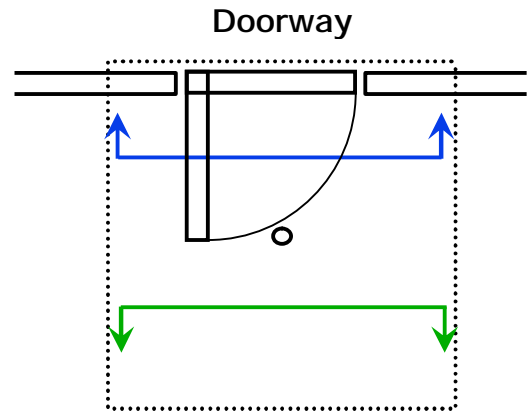

Figure 10.1
- Avoid mounting the counter over a doorway where the door opens into the scene, where possible. In some circumstances the door will cause false counts. See Figure 10.1.